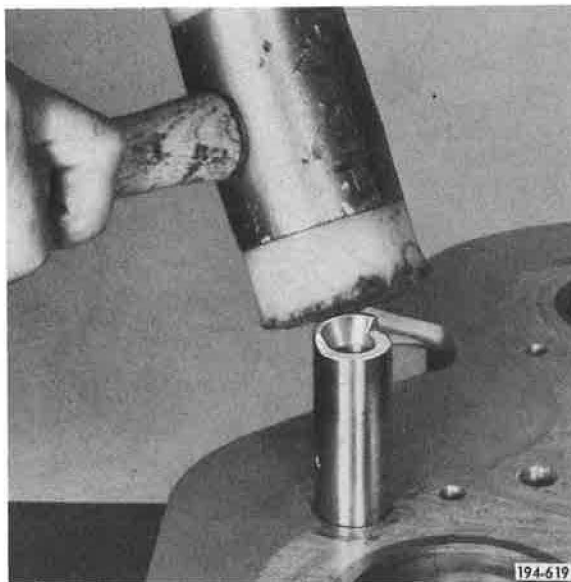

Figure 320. Installing Shaft
5. Drive reverse idler shaft part way into rear case with a soft mallet, being sure that the reverse idler gear, bearing, and thrust washers are in proper alignment for shaft to go through them. See Figure 320.